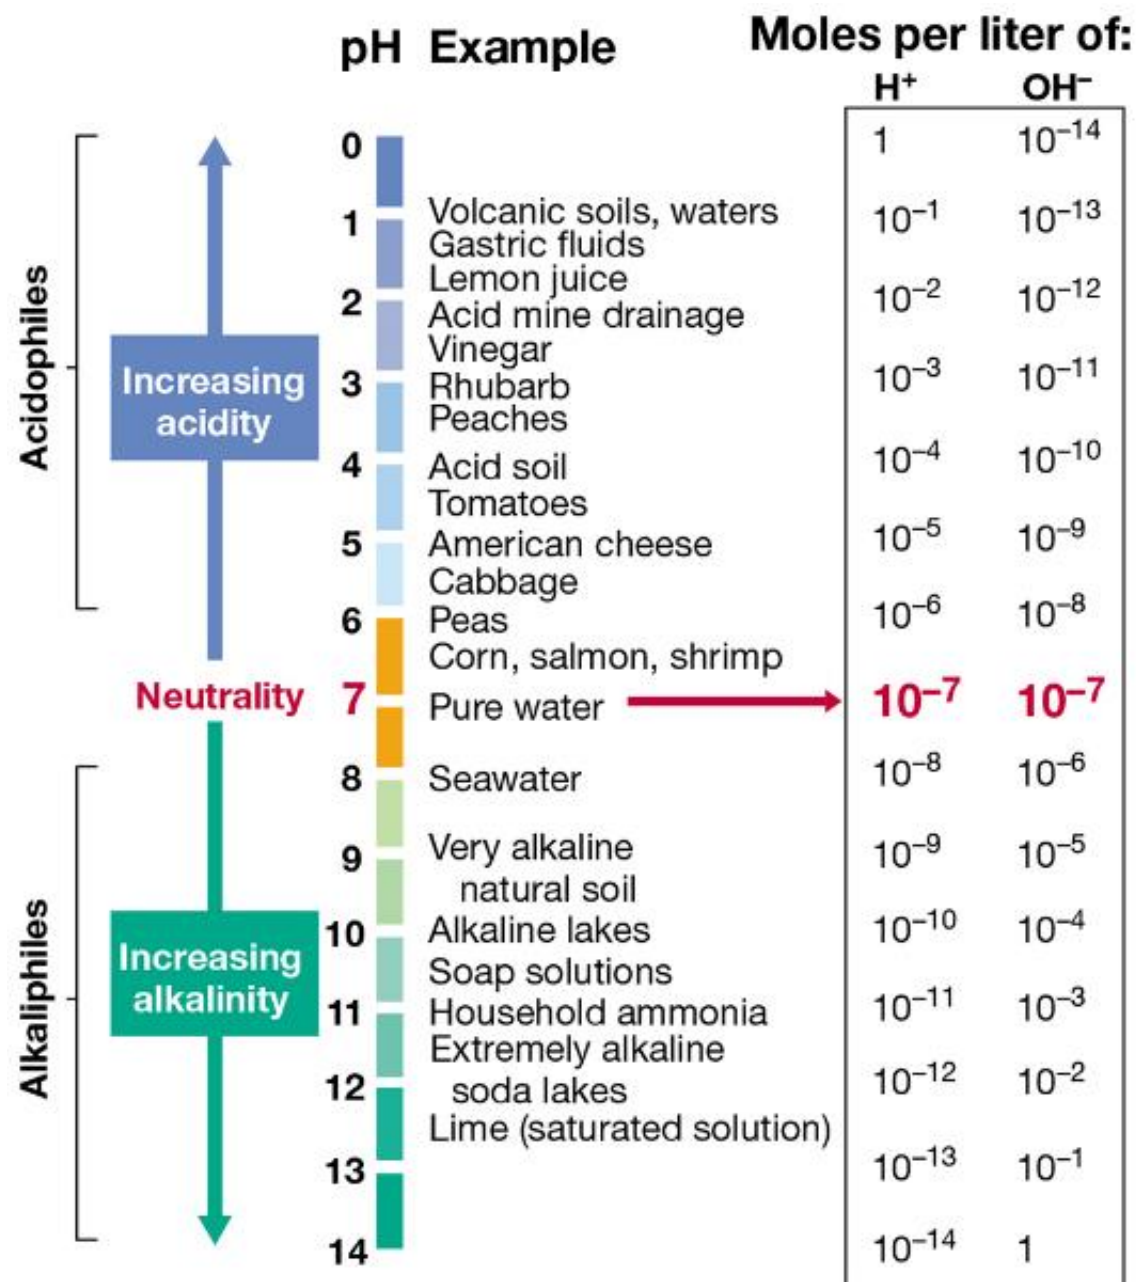

Figure 5.23
- pH 7 = neutral (Figure 5.23)